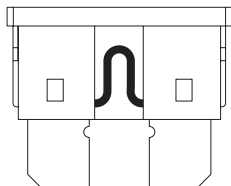

Figure 9. Working Fuse
- Examine the 5-amp charger fuse. If the fuse is "blown", the batteries will not charge. See figures 9 and 10.